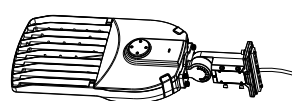

Figure 10
Step 2: Attach the bracket to the fixture, then close the side lid and tighten it. (Figure 10)